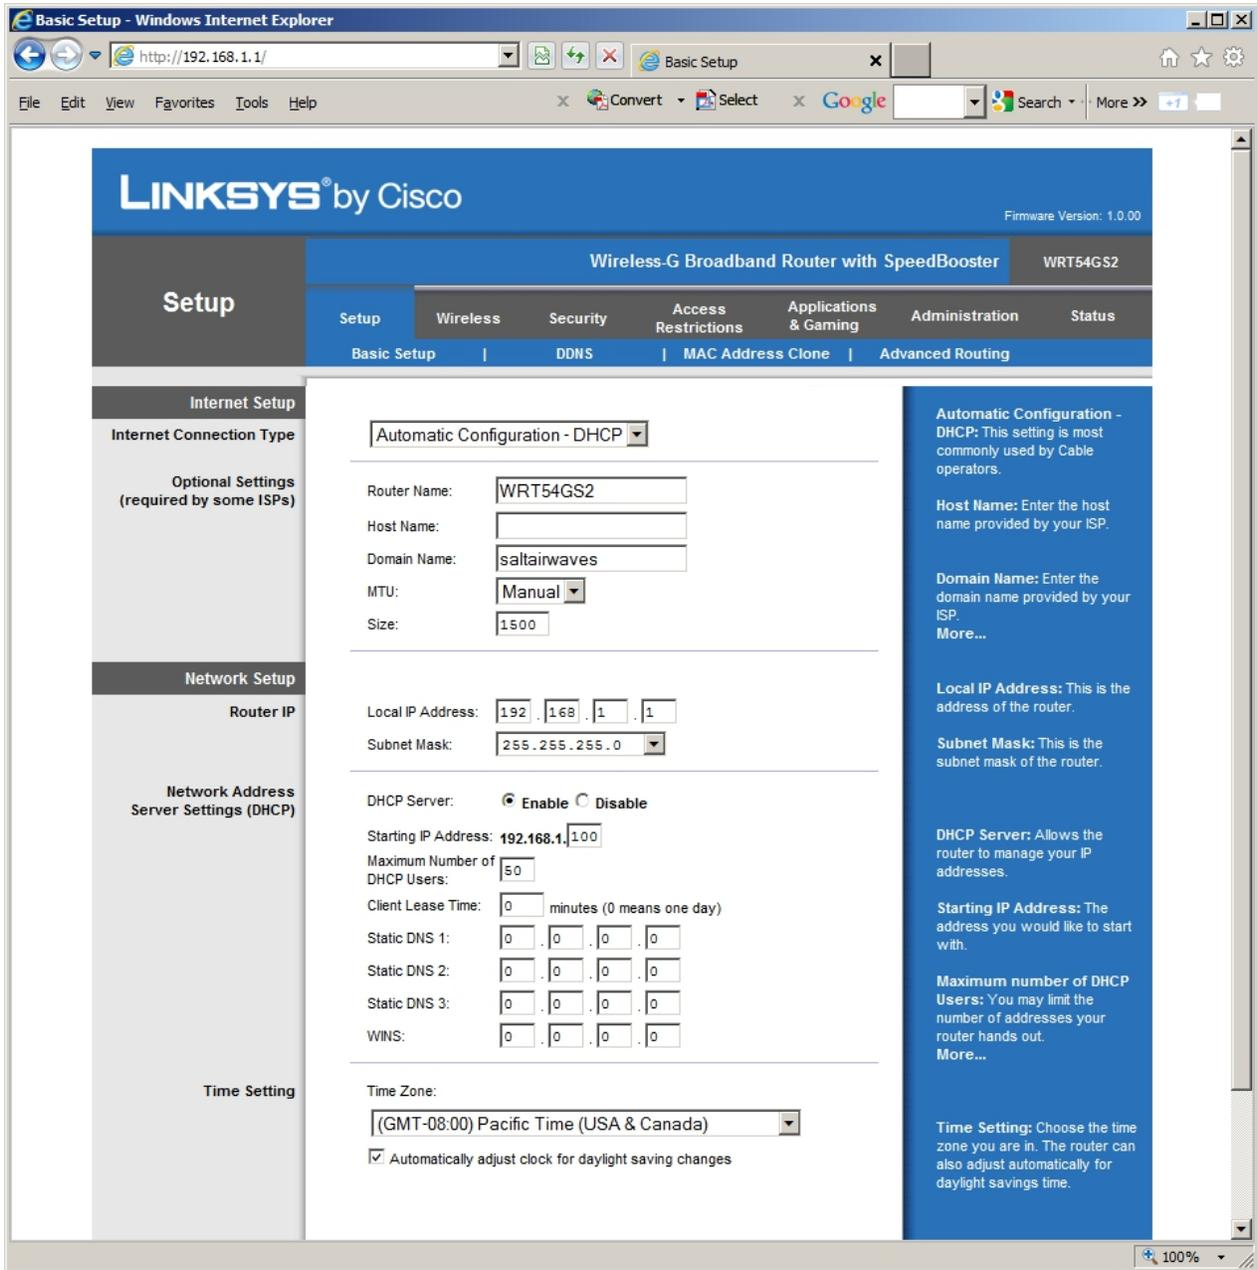

Figure 7
1. With a computer connected to the remote LAN router, open the browser and enter the router's I.P. address to open the router's configuration page (Figure 7). Various makes of routers will show different pages. The examples here show the Linksys router's configuration pages. If you have a Linksys router, the default URL is <http://192.168.1.1>.